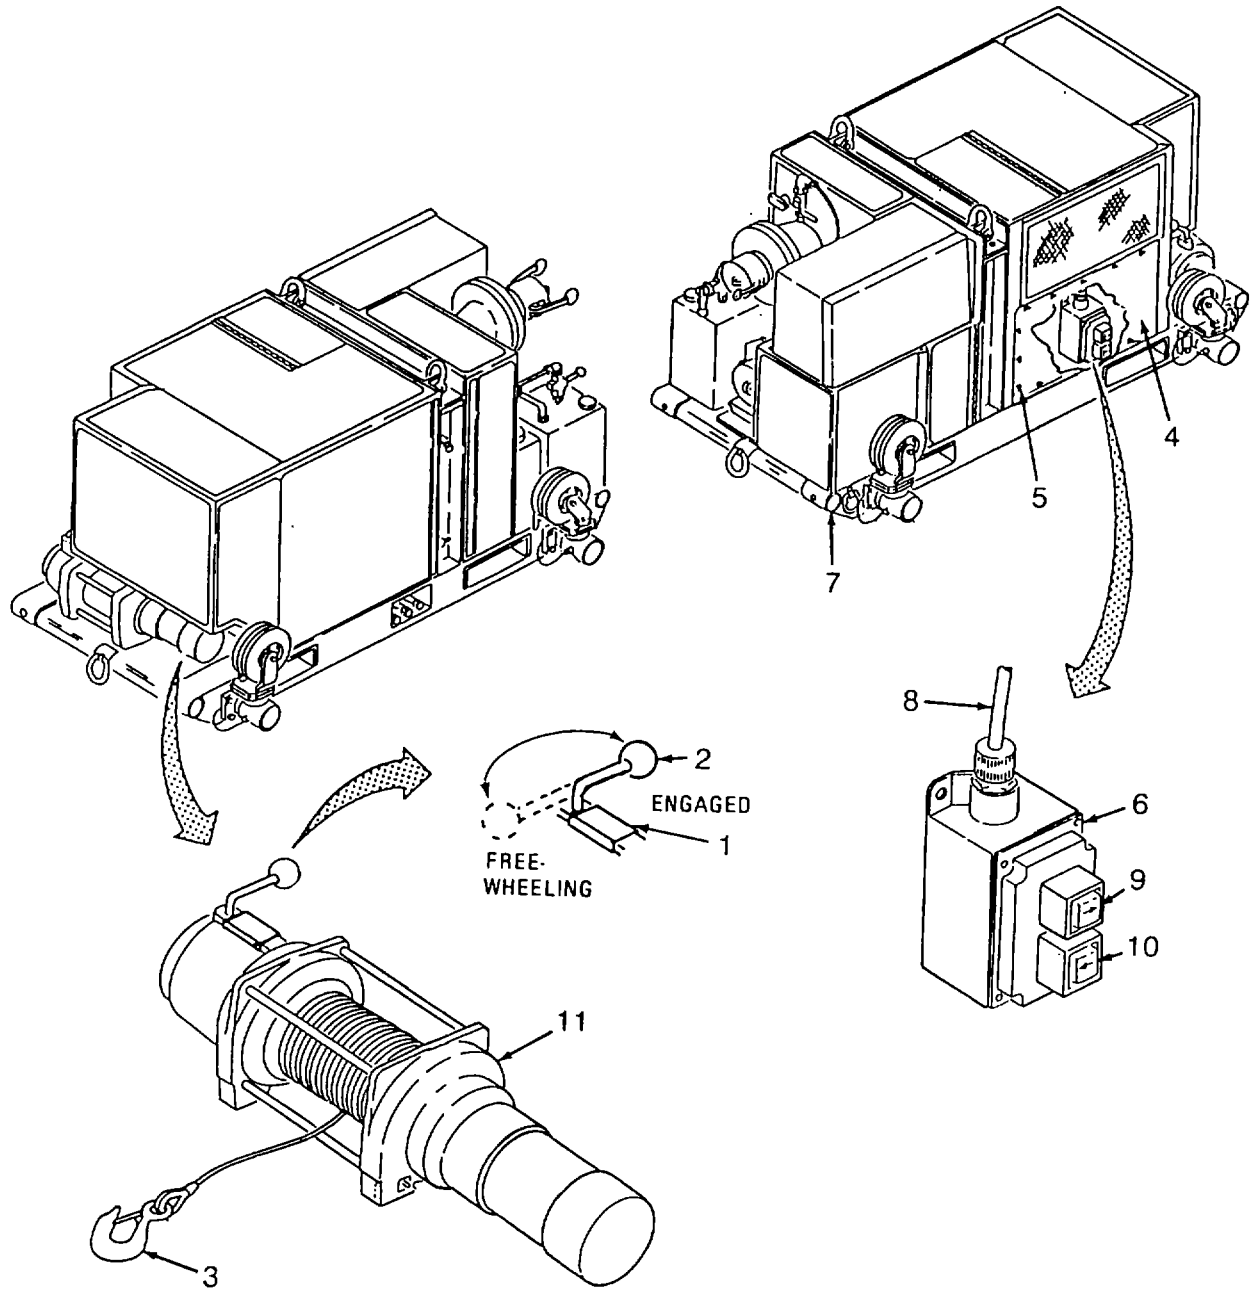

Figure 2-5. Winch Positioning
- (a) Guide forklift tongs into forklift guides (4) on the 200/600 GPM Pump (3) and lift.
- (b) Position 200/600 GPM Pump (3) in designated site and lower it to the ground.
- (4) Winch positioning (wheels up or down). Refer to Figure 2-5.